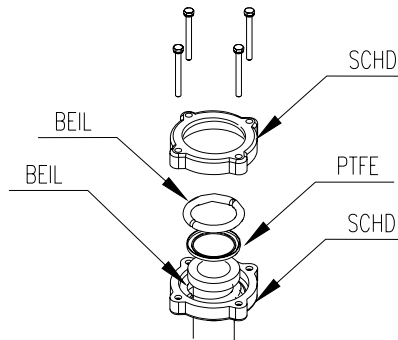

figure21
- Place the second beil between the SCHD with the screws in it and the valve flange (see figure 21).